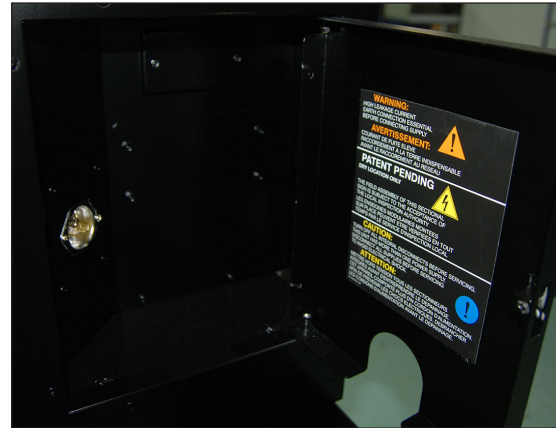

Figure 14: Right Rear Access Door Open
2. Behind the access door, locate the NEMA® L5-20P flanged inlet (Hubbell® HBL2315). Refer to **Figure 14**.